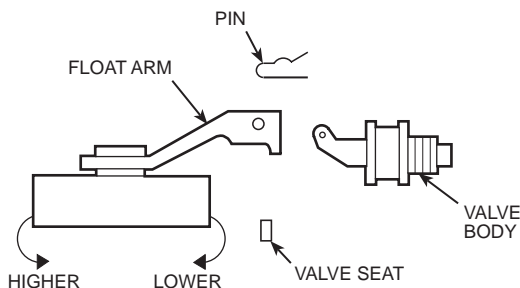

Fig. 11 — Float Arm Removal — P110-WTR2019A
6. Inspect the float assembly. Remove the float arm from the valve body by sliding out the pin and lifting off the float arm. (See Fig. 11.) Inspect the rubber valve seat located inside the float arm. If the seat appears to be nicked or worn, invert the seat or replace it with the spare valve seat located on the float arm. Inspect the water opening in the valve body. If the opening is clogged, use a pin to remove the obstruction. Remove any accumulated deposits from the valve body and float arm.